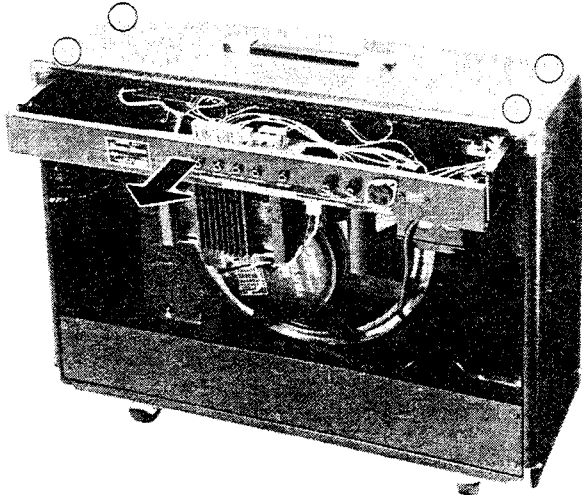

Figure 3
- 1. Remove the 4 screws securing the amp unit to the cabinet, as shown in Figure 3.
- 4. To remove the amp unit from the cabinet, pull it forward as shown in Figure 3.